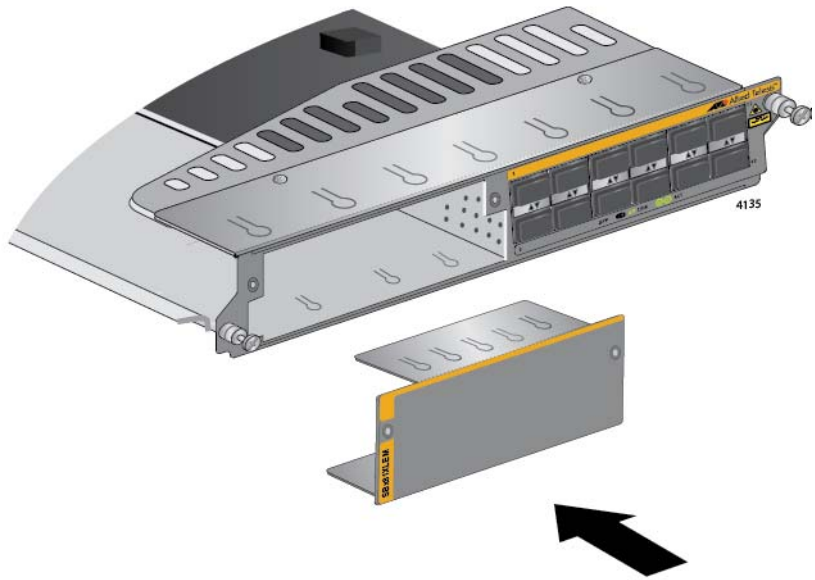

Figure 168. Sliding the Blank Slot Cover into the AT-SBx81XLEM Line Card
9. Slide the blank slot cover that comes with the line card into the slot on the card. Refer to Figure 168 on page 261.